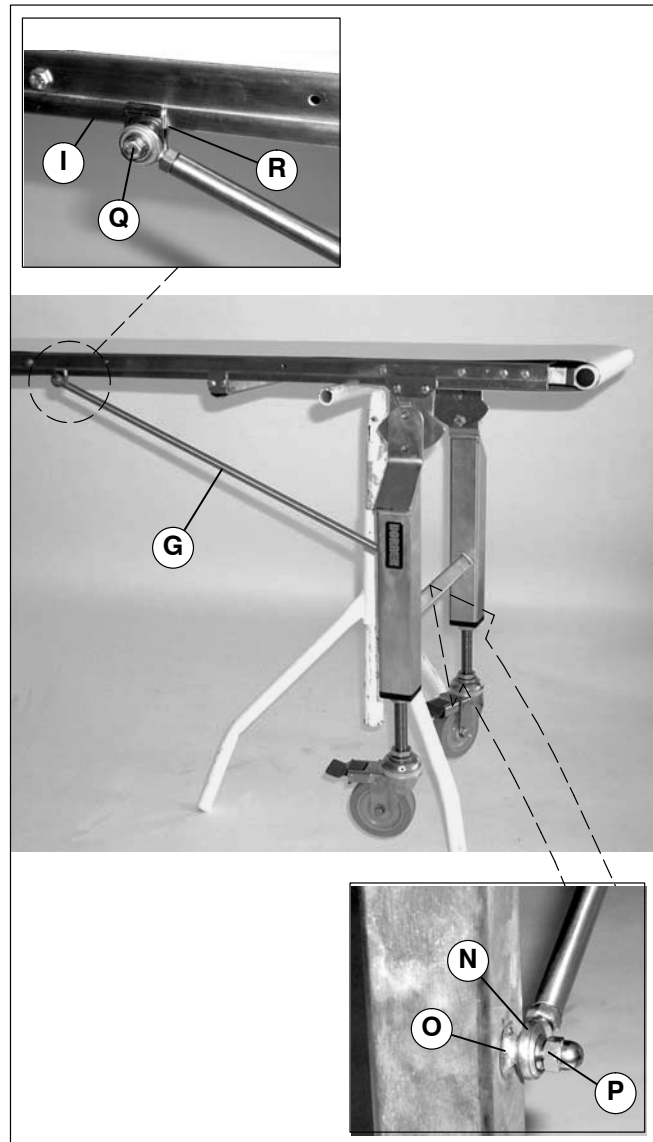

Figure 8
1. Install rod-end (N of Figure 8) of diagonal brace (G) on stud (O) and secure with M8 acorn nut (P).
2. If necessary, loosen M6 screw (Q). Slip clip (R) onto conveyor (I). Tighten screw (Q) to 80 in-lb (9 Nm).